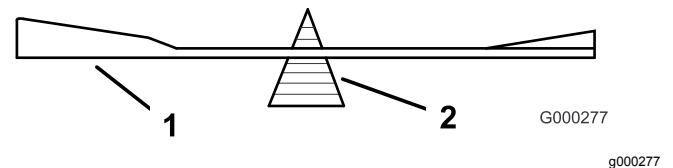

Figure 83
- Check the balance of the blade by putting it on a blade balancer (Figure 83).